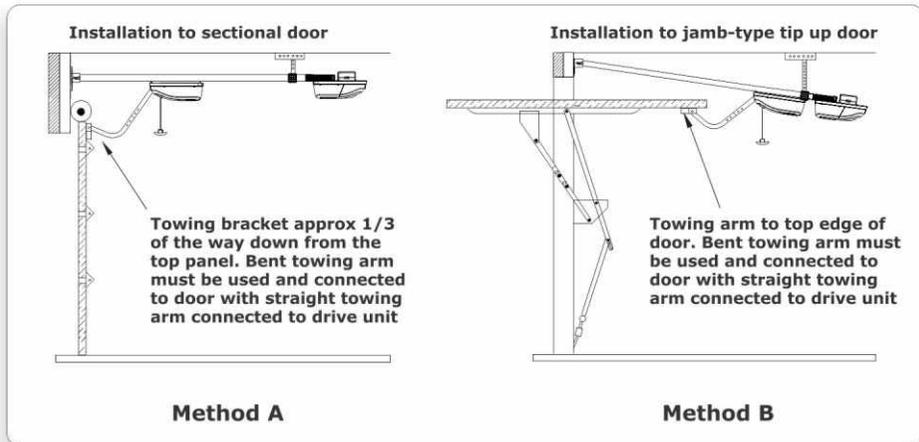
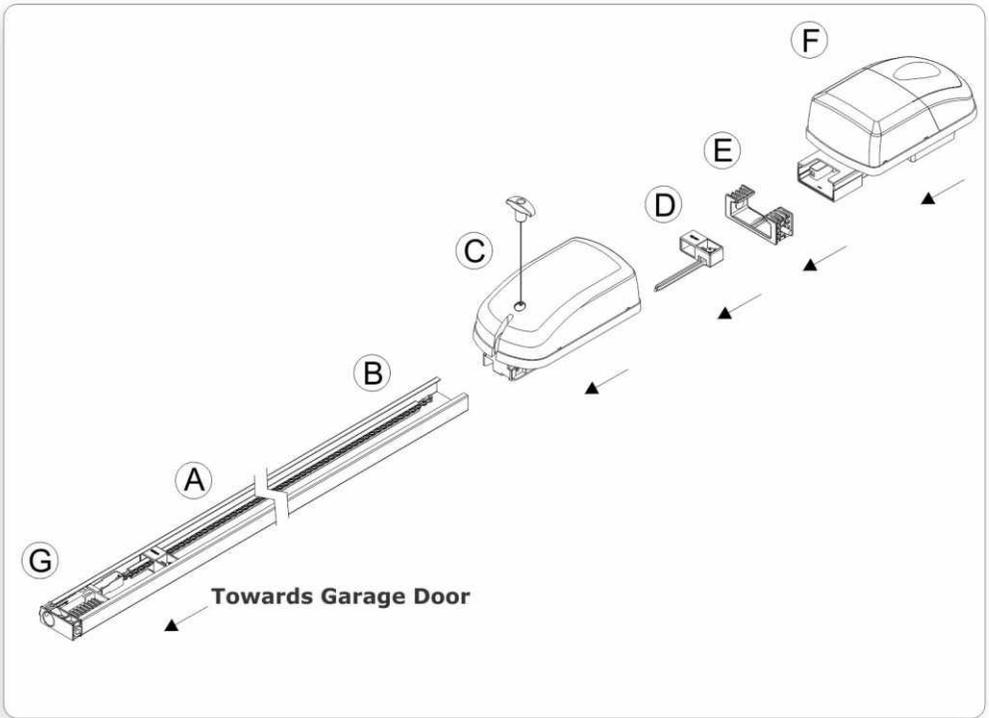

FIGURE 1.
FIGURE 2. SECTIONAL UNIT ASSEMBLY DEPICTED
- Open the packing carton and expose the **XTrac** components as depicted in Figure.2
- Orientate the Drive Rail (Figure.2-A) so that the Terminal Bracket (Figure.3-G) faces towards the garage door
- Locate the Drive Unit (Figure.2-C) and slide it into the Drive Rail and at the same time insert the Drive Chain (Figure.1-B) into the Drive Unit. Slide the Drive Unit at least 500mm in from the end of the Drive Rail
- Locate the Close Limit Prong (Figure.2-D) and slide it into the Drive Rail
- Locate the Drive Rail Hanger (Figure.2-E) and slide it around the outside of the Drive Rail. Make sure that the M8 dome head mounting bolts have been fitted to the Drive Rail Hanger